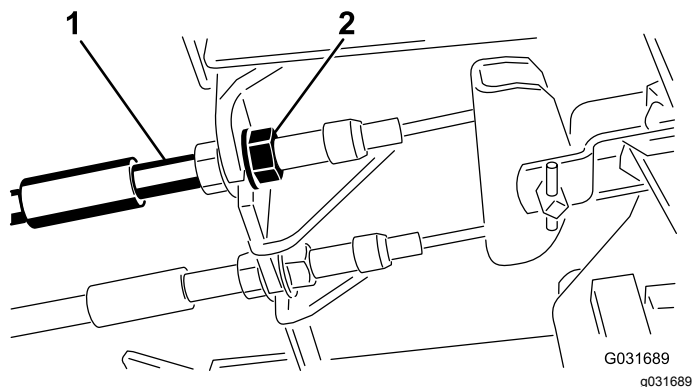

Figure 85
1. To reduce free travel of the brake pedals, tighten the brakes by loosening the front nut on the threaded end of the brake cable (Figure 85).